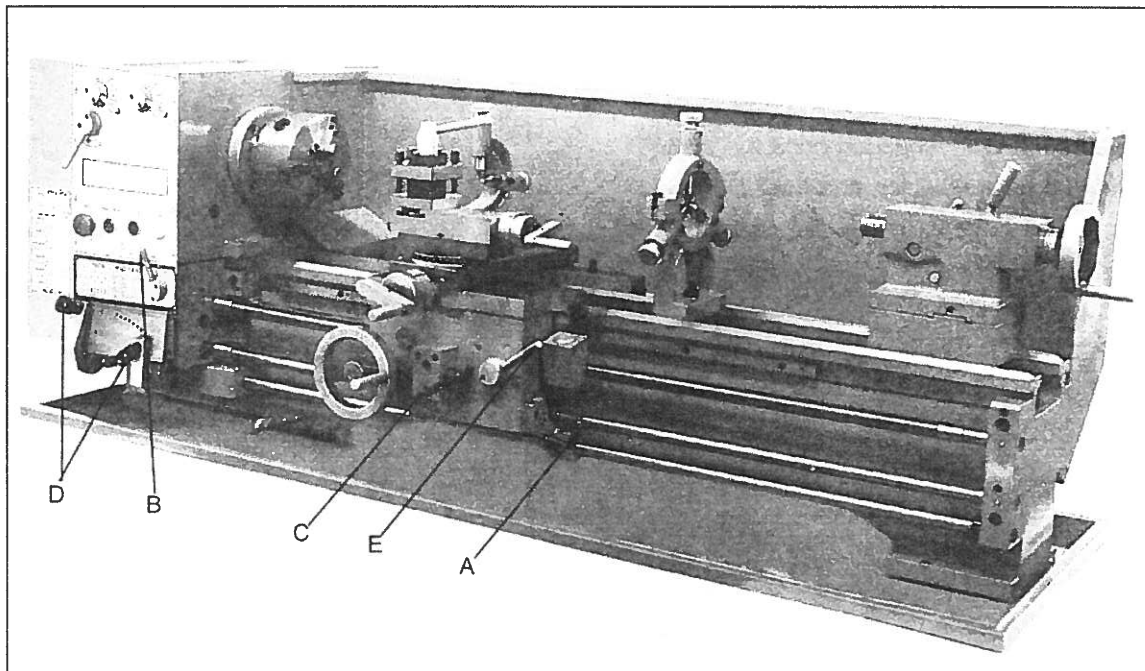

Fig. 16
1. Move the forward/reverse selector (A, Fig. 16) up or down depending on desired direction.
2. Set the carriage feed/thread selector (B, Fig. 16) to the left position to start the feed rod rotating.
1. Push lever (C, Fig. 16) down to engage crossfeed. Pull lever up to engage longitudinal feed.
1. Set feed rate selectors (D, Fig. 16) in proper position for the correct feed rate of the thread pitch to be cut.
2. Move carriage feed/thread selector (B, Fig. 16) lever to the right (lead screw will start to rotate).
3. Engage the half nut lever (E, Fig. 16).